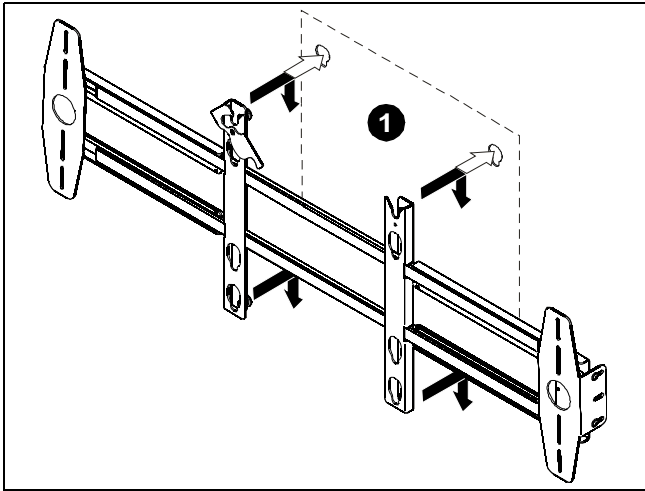

Figure 9
1. Install accessory to mount following the installation instructions provided with the mount. (See Figure 9)